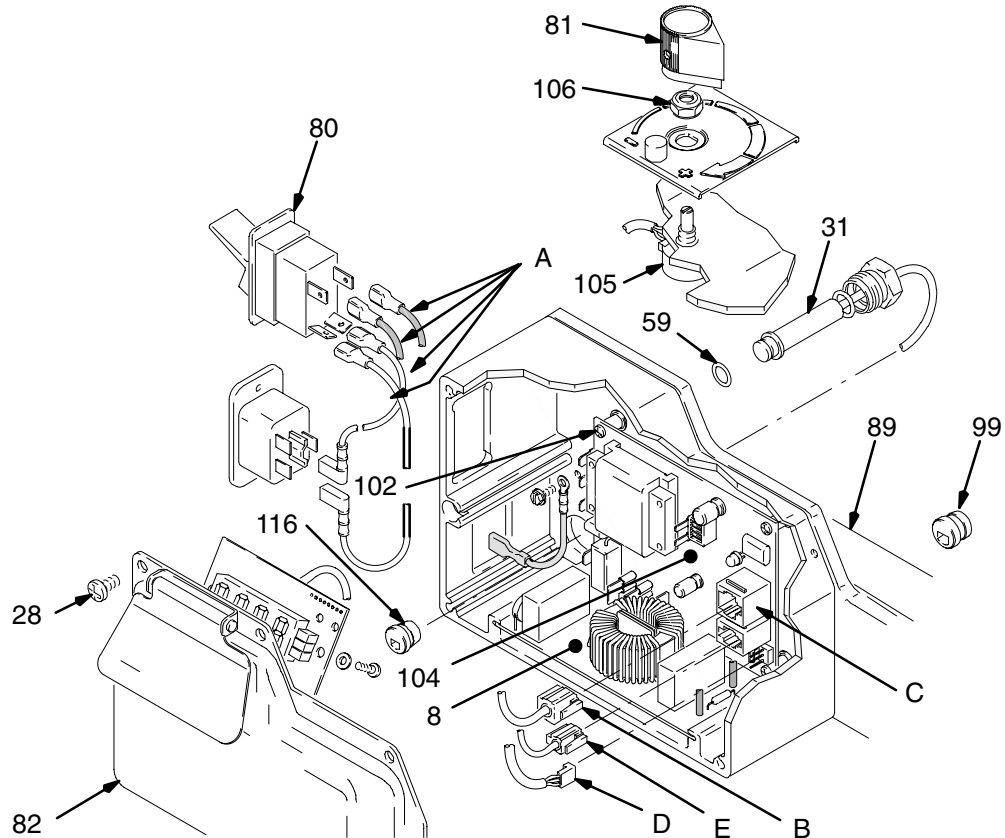

Fig. 7
3. Fig. 7. Remove pressure control cover (82).
4. Remove display connector (B) from plug (C)
5. Disconnect four wires (A) from ON/OFF switch (80).
6. Press in on two retaining tabs on each side of ON/OFF switch (80) and remove.
7. Install new ON/OFF switch (80) so tabs of switch snap into place on inside of pressure control housing.
8. Connect four wires (A) to ON/OFF switch.
9. Install display connector (B) in plug (C)
10. Install pressure control cover (82).
2. Fig. 7. Remove five screws (28) and cover (82).
1. Fig. 7. Install motor control board (104) with four screws (102).
2. Connect to motor control board (104):
- Lead (E) to transducer.
- Lead (D) to potentiometer.
- Filter board (8).
2. Remove five screws (28) and cover (82). See Fig. 7.
3. Disconnect lead (E) from motor control board (104).
4. Remove strain relief bushing (116).
5. Remove pressure control transducer (31) and packing o-ring (59) from control housing plate (89).
1. Fig. 7. Install packing o-ring (59) and pressure control transducer (31) in control housing plate (89). Torque to 30–35 ft-lb.
2. Install strain relief bushing (116).
3. Connect lead (E) to motor control board (104).
4. Install cover (82) with five screws (28).
3. Disconnect lead (D) from motor control board (104).
4. Remove potentiometer knob (81), sealing shaft nut (106) and pressure adjust potentiometer (105).
1. Fig. 7. Install pressure adjust potentiometer (105), sealing shaft nut (106) and potentiometer knob (81).
2. Connect lead (D) to motor control board (104).
3. Install cover (82) with five screws (28).